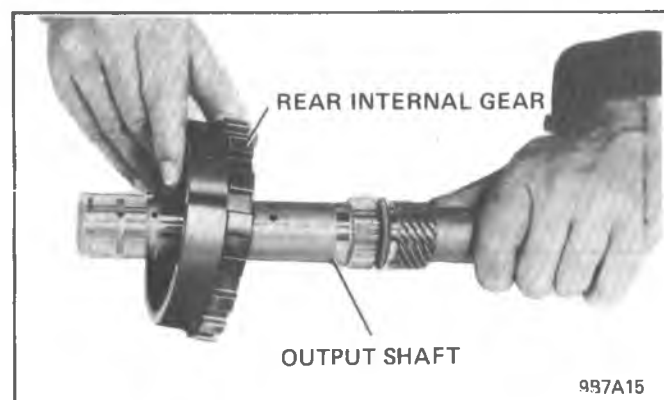

Figure 7A1-73 Installing Rear Internal Gear on Output Shaft
4. Inspect 4 tanged rear carrier to rear internal gear thrust washer for being scored or distorted tangs. (Figure 7A1-74)